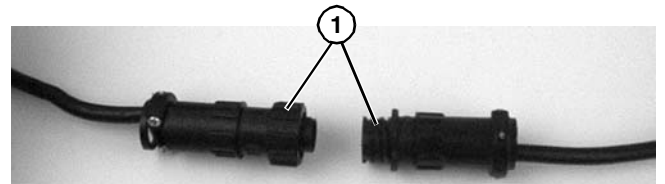

**Figure 28**
1. Loosen terminal box screws (**Figure 28, item 1**) and remove cover (**Figure 28, item 2**).